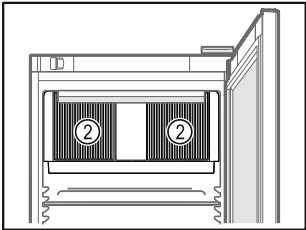

Fig. 61
- ❑ Ventilation slots *Fig. 61 (2)* for recirculation fan in the interior must be kept clear.